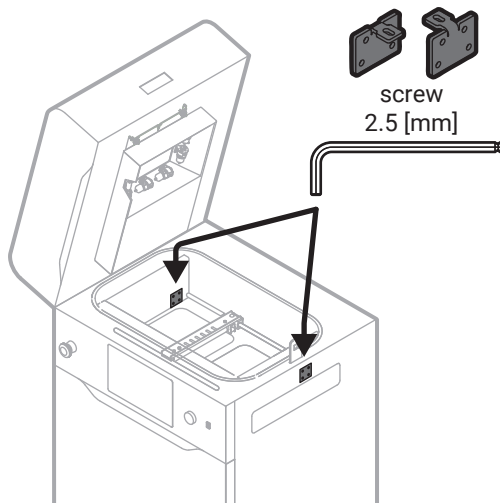

Fig. 12 Mounting the angle bracket to print chamber housing.
2. Screw the two angle brackets in place of the previous plates (fig. 12). Use four M3x6 screws per bracket and a 2.5 mm allen.